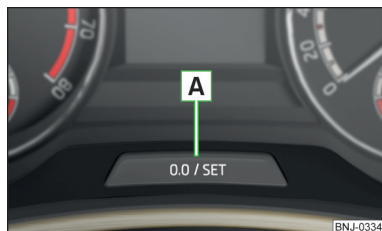

Fig. 42
- Press and hold the button **A** » Fig. 42 until the **Service** menu item is shown in the display.